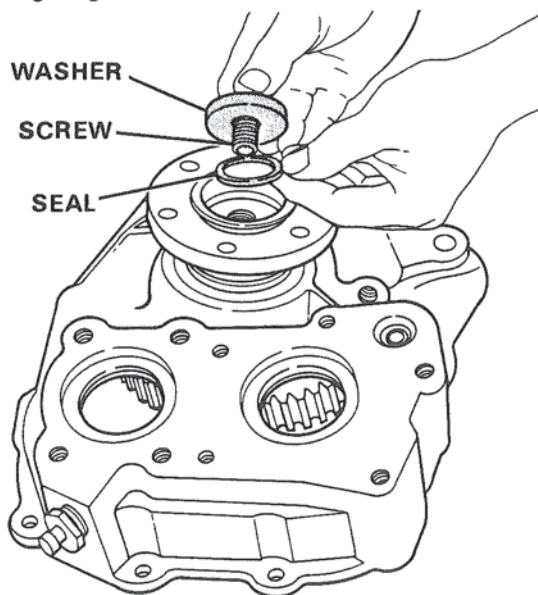

Figure 18. Removing Screw, Washer and Seal.
1. Set the rear cover with attached parts on the bench so the output flange faces up. Remove the output flange retainer screw washer, and lathe-cut seal ring. Figure 18.